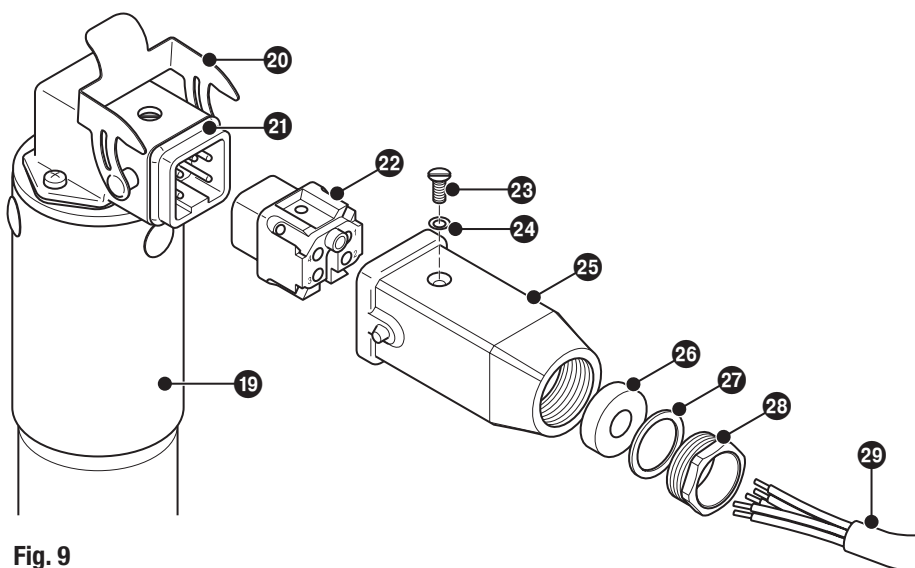

Fig. 9
1. Undo screw ②③. **Fig. 9**
2. Detach upper part of the terminal box ②⑤ from the level electrode.